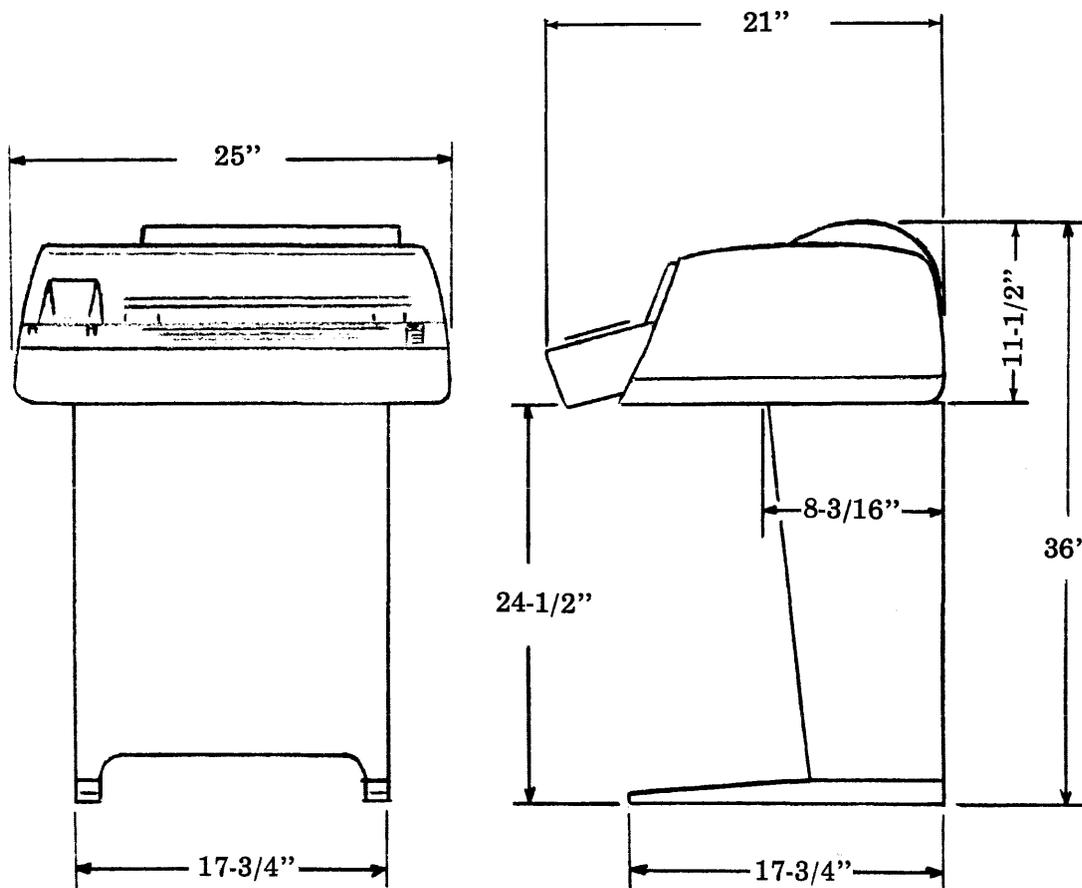

Figure 12 - 38 ASR Set Dimensions
- (a) Dimensions See Figure 12